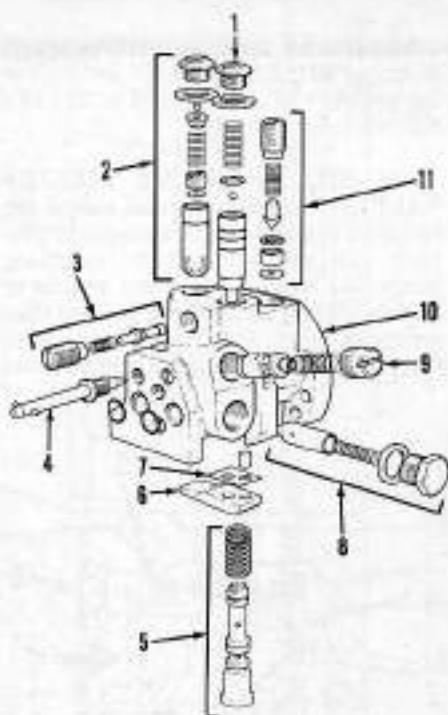

Fig. 214—Exploded view of selectamatic control valve showing separate valve locations and related parts.
If complete disassembly of valve is necessary, keep all individual valve component parts together. Do not mix parts from one valve with another. Remove rocker lever plate (6—Fig. 214) and shims (7). Note number and thickness of shims.
383. **BY-PASS VALVE.** By-pass valve (2—Fig. 214) controls flow of hydraulic fluid from pump, directing flow to rockshaft cylinder when necessary to raise linkage and to lubrication circuit at other times.
384. **HOLD VALVE.** Hold valve (1—Fig. 214) retains fluid in rockshaft cylinder until necessary to lower lift linkage, then opens allowing fluid in cylinder to return to sump.
385. **HOLD RELIEF VALVE.** Hold relief valve (11—Fig. 214) protects rockshaft cylinder and hydraulic system by opening if shock pressure created by heavy implements exceeds 17.2 MPa (2500 psi).
386. **SPOOL VALVE.** Spool valve (5—Fig. 214) is activated by quadrant lever and controls operation of by-pass and hold valves to raise or lower linkage according to quadrant lever position.
387. **NON-RETURN VALVE.** Non-return valve (8—Fig. 214) prevents oil in rockshaft cylinder from returning to pump outlet passage when hold valve is closed and by-pass valve is open.
388. **SENSING VALVE.** Sensing valve (3—Fig. 214) functions when lift arms are in raised position and weighted with implement. Leakage in rockshaft cylinder circuit causes linkage to lower slowly, gradually placing spool valve in raise position. Sensing valve will then snap closed, providing a sharp response of by-pass valve.
**389. RATE OF LOWERING VALVE.** Rate of lowering valve (9—Fig. 214) is a flow control valve regulated by opening and closing needle valve (4), thus regulating flow of oil